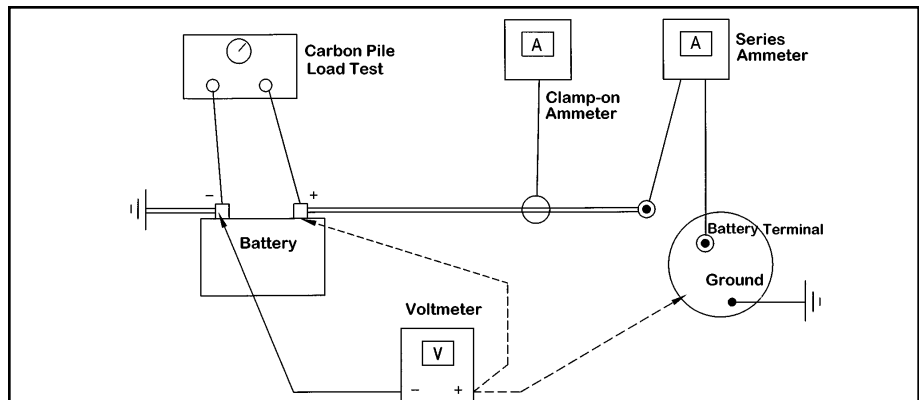

Figure 11
1. Refer to **Figure 11** for test equipment hook-up. If induction pick-up type ammeter is to be used, place it around the alternator output lead.